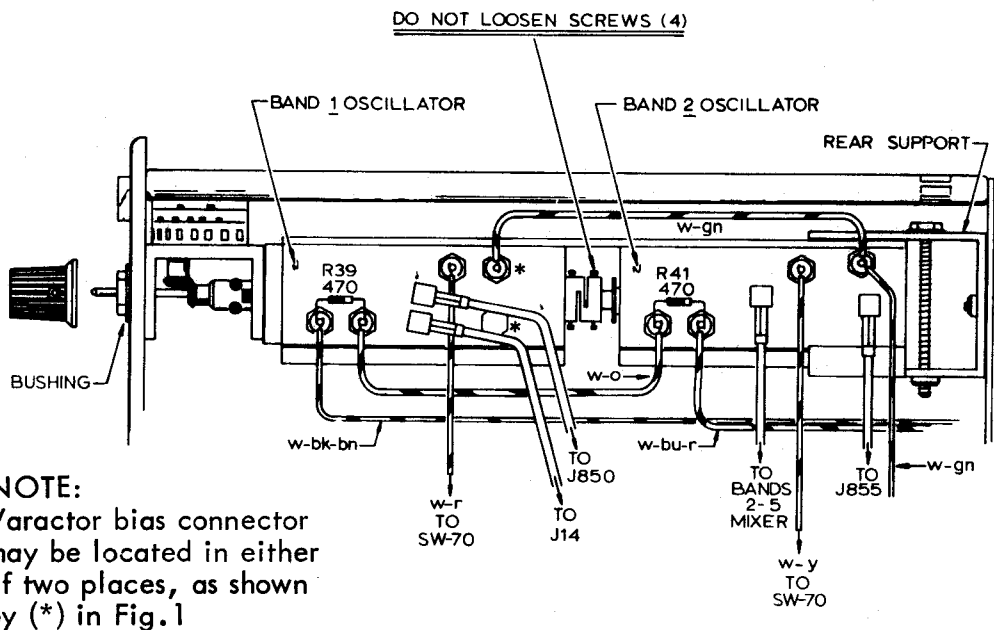

FIG. 1
- () 1. Disconnect the coax connectors and unsolder the four wires. See Fig.1 below.